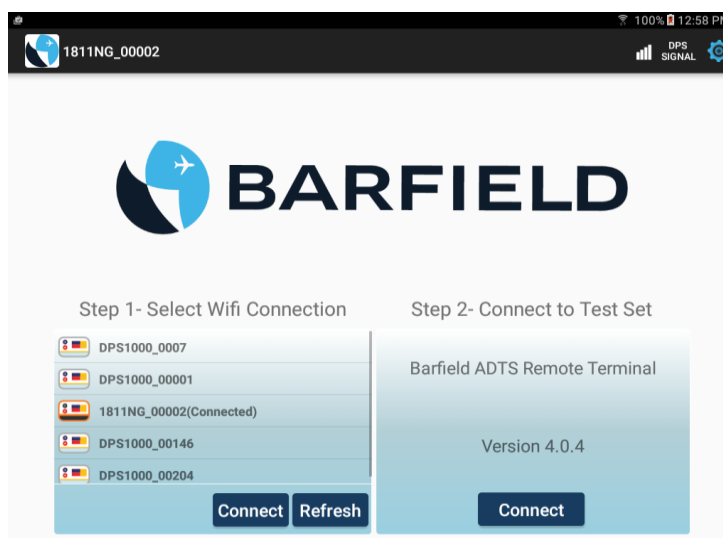

Figure E.1 Connect Screen
- a) Launch the "Barfield ADTS" app. The "Connect" screen appears (Fig. E.1).